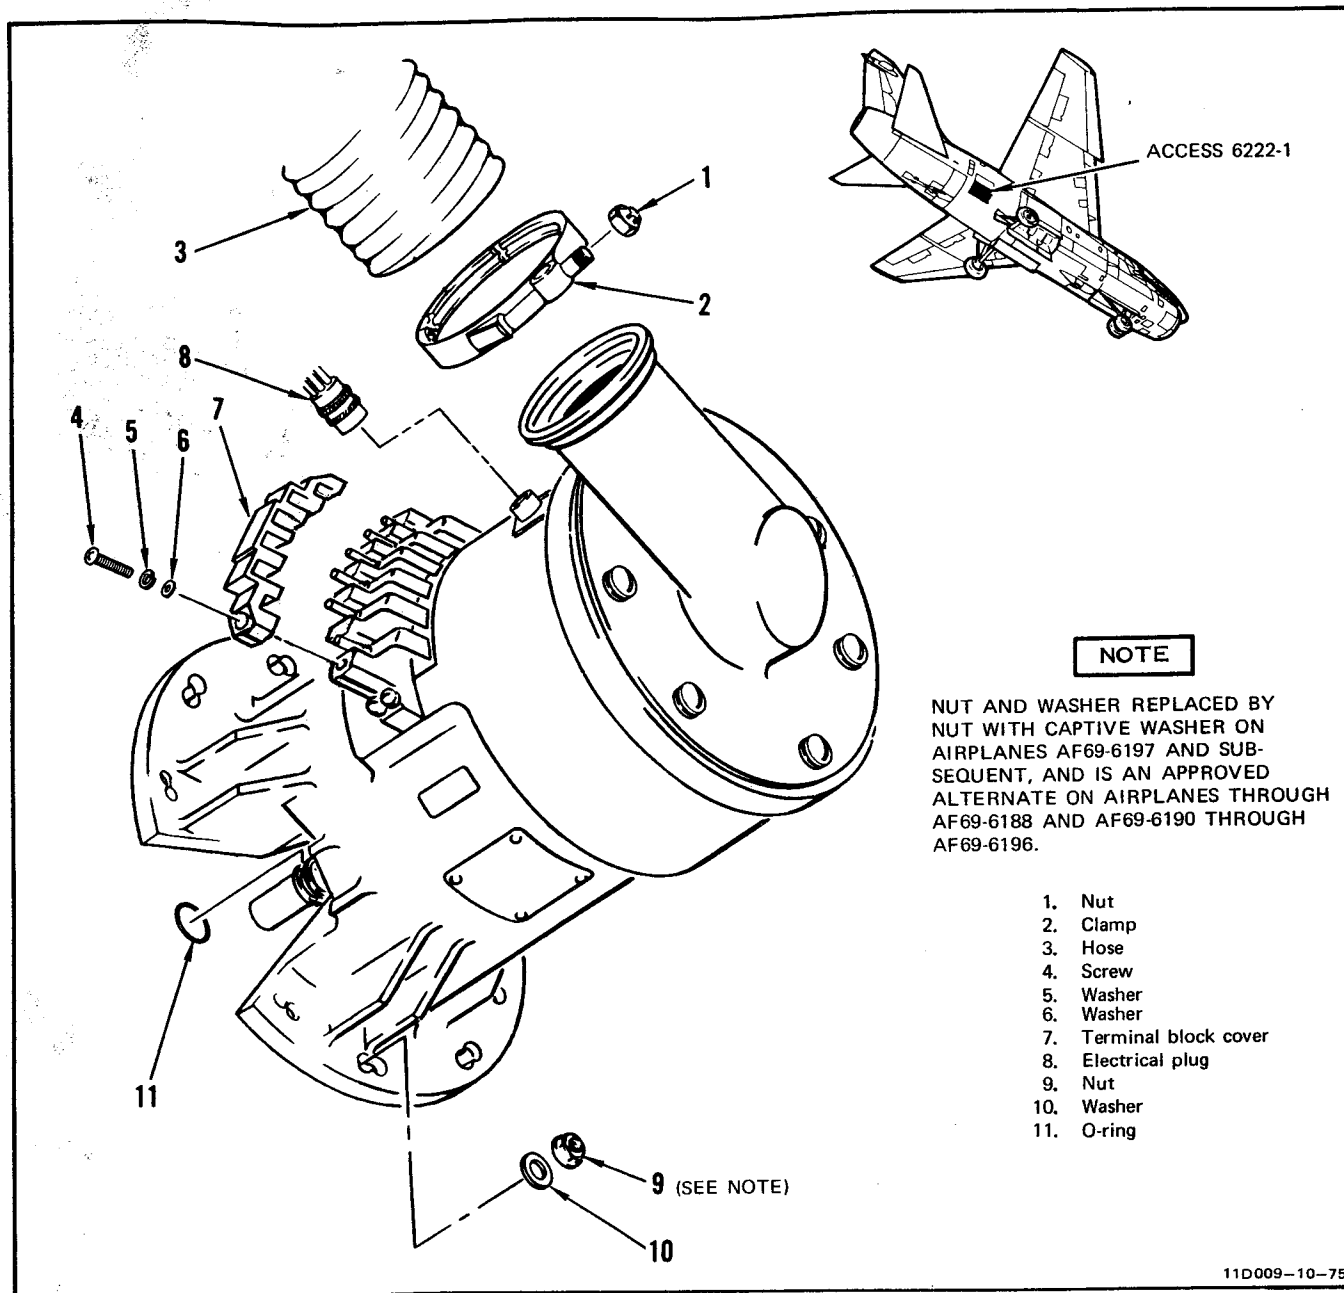

Figure 2-5. Master AC Generator Removal and Installation
| 3. Test set meter does not indicate 115.0 (+6.0, -2.5) volts ac on each phase. | <p>a. Check that generator control panel P383, pin 9 wire lead is properly grounded to airplane.</p> <p>b. Disconnect P415 from master ac generator. Perform resistance checks between ground and PMG pins 3, 4, 5, 9, and 10 (paragraph 2-15A). If resistance is greater than 1 megohm, perform step c. If resistance is less than 1 megohm, replace master ac generator (paragraph 2-18) and reconnect P415.</p> <p>c. Open access 2232-1 and 6222-1, and check current transformers for security, cracks, and broken leads. If transformers are defective, replace transformers. If transformer checks are correct, perform step d.</p> <p>d. Check terminals and wires at master ac generator studs for proper connection (Figure 2-5). If connection is correct, perform step e. If connection is incorrect, connect terminal wires to stud properly.</p> <p>e. Disconnect P383 from generator control panel. Check continuity between test jacks FLD and N. If continuity is indicated, check for possible defective wiring.</p> |
**2-19. REMOVAL. (See figure 2-5.)**
p. Remove generator from airplane and remove O-ring (11) from generator stub spline shaft. Discard O-ring.
**2-20. INSTALLATION. (See figure 2-5.)**
b. Coat new O-ring (11) with transmission oil. Install O-ring on generator stub spline shaft.